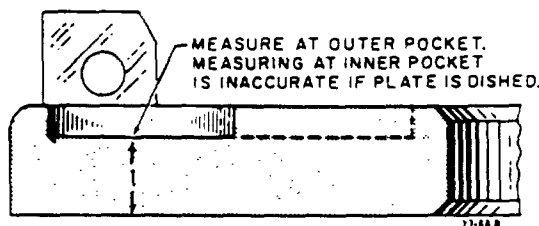

Figure 4-4. Pressure Plate Thickness Dimension
5. If pressure plate is scored, heat checked, or warped more than 0.020 inch, it must be replaced or refaced. Remove only enough metal to obtain a smooth flat surface. Finish with a light cut and polish with emery cloth. When thickness (1) becomes less than the worn limit given in specifications, the plate must be replaced. Measure at outer spring pocket, see Figure 4-4. Measuring at inner pocket is not accurate, if pressure plate is dished. If cleft lugs are worn, cracked or distorted, replace the plate. Replace eyebolts if they are distorted, have worn threads or keyways.